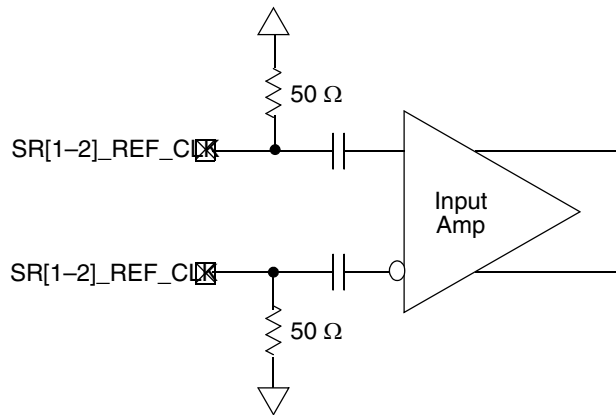

Figure 5. Receiver of SerDes Reference Clocks
The SerDes reference clock inputs are applied to an internal PLL whose output creates the clock used by the corresponding SerDes lanes. The SerDes reference clock inputs are $\text{SR1_REF_CLK}/\overline{\text{SR1_REF_CLK}}$ or $\text{SR2_REF_CLK}/\overline{\text{SR2_REF_CLK}}$. Figure 5 shows a receiver reference diagram of the SerDes reference clocks.
- The $\text{SR}[1-2]_\text{REF_CLK}$ and $\overline{\text{SR}[1-2]_\text{REF_CLK}}$ are internally AC-coupled differential inputs as shown in Figure 5. Each differential clock input ($\text{SR}[1-2]_\text{REF_CLK}$ or $\overline{\text{SR}[1-2]_\text{REF_CLK}}$) has on-chip 50- Ω termination to GND_{SX0} followed by on-chip AC-coupling.